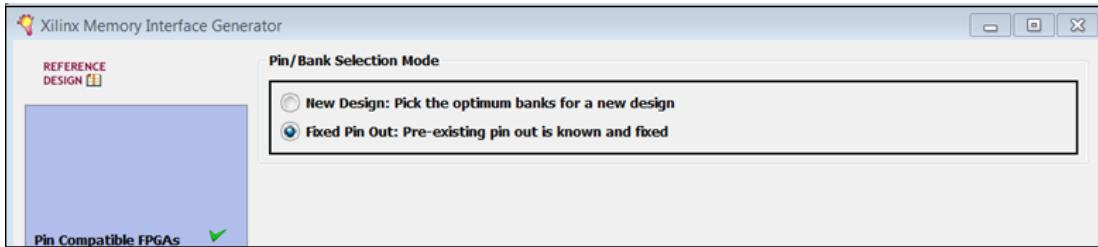

Figure 97: MIG Page: Pin/Bank Selection Mode
- m. In the MIG Pin/Bank Selection Mode page, select **Fixed Pin Out**. Click **Next** (Figure 97).